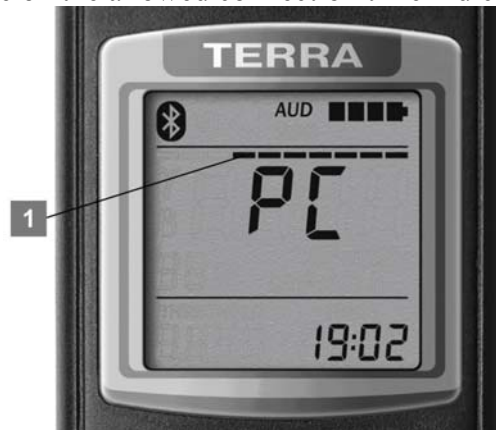
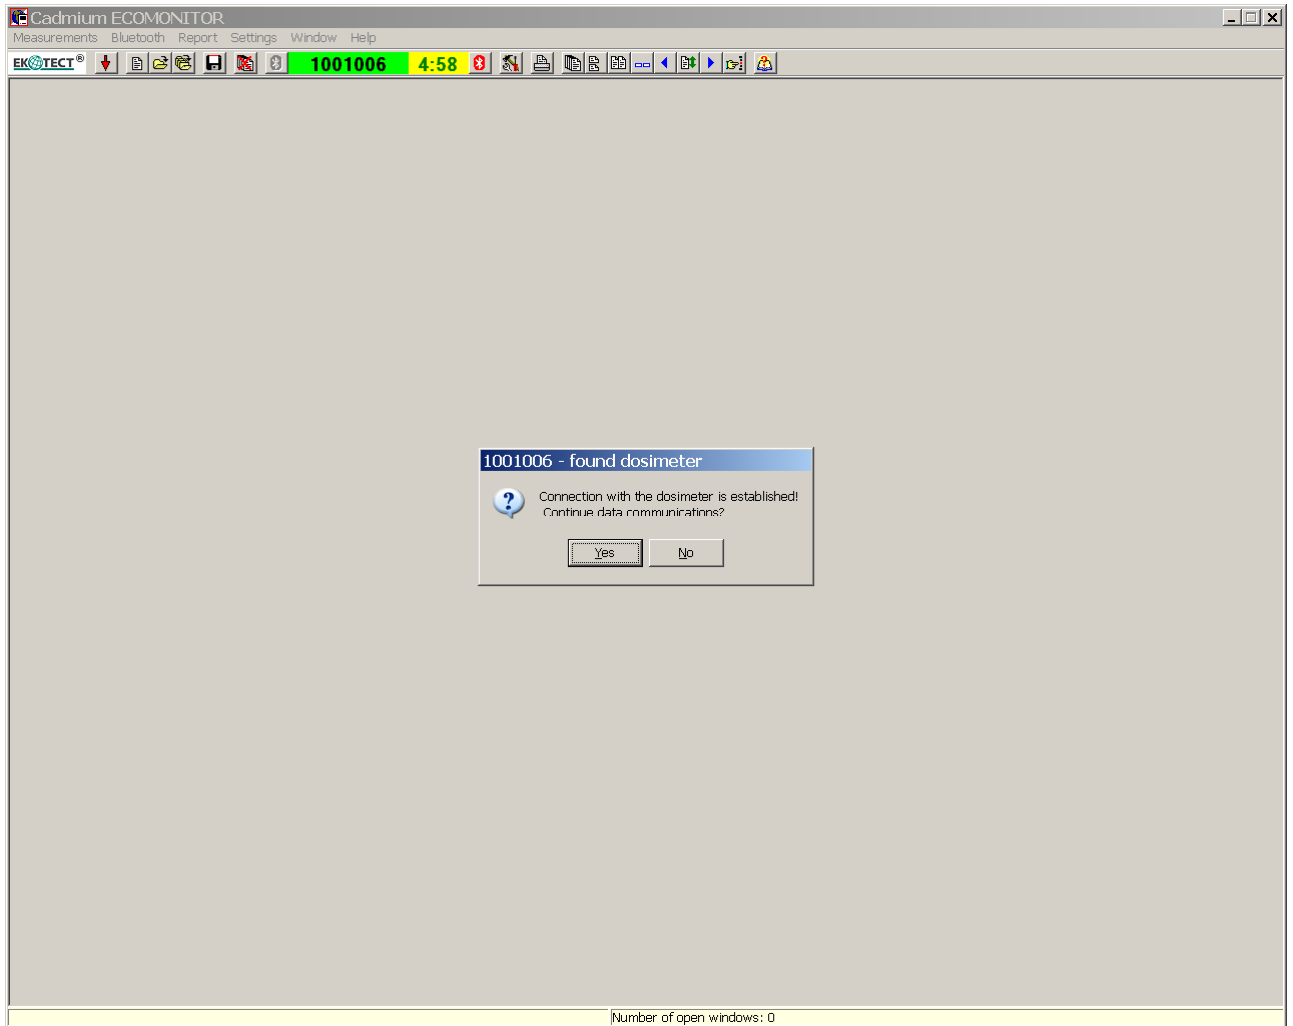
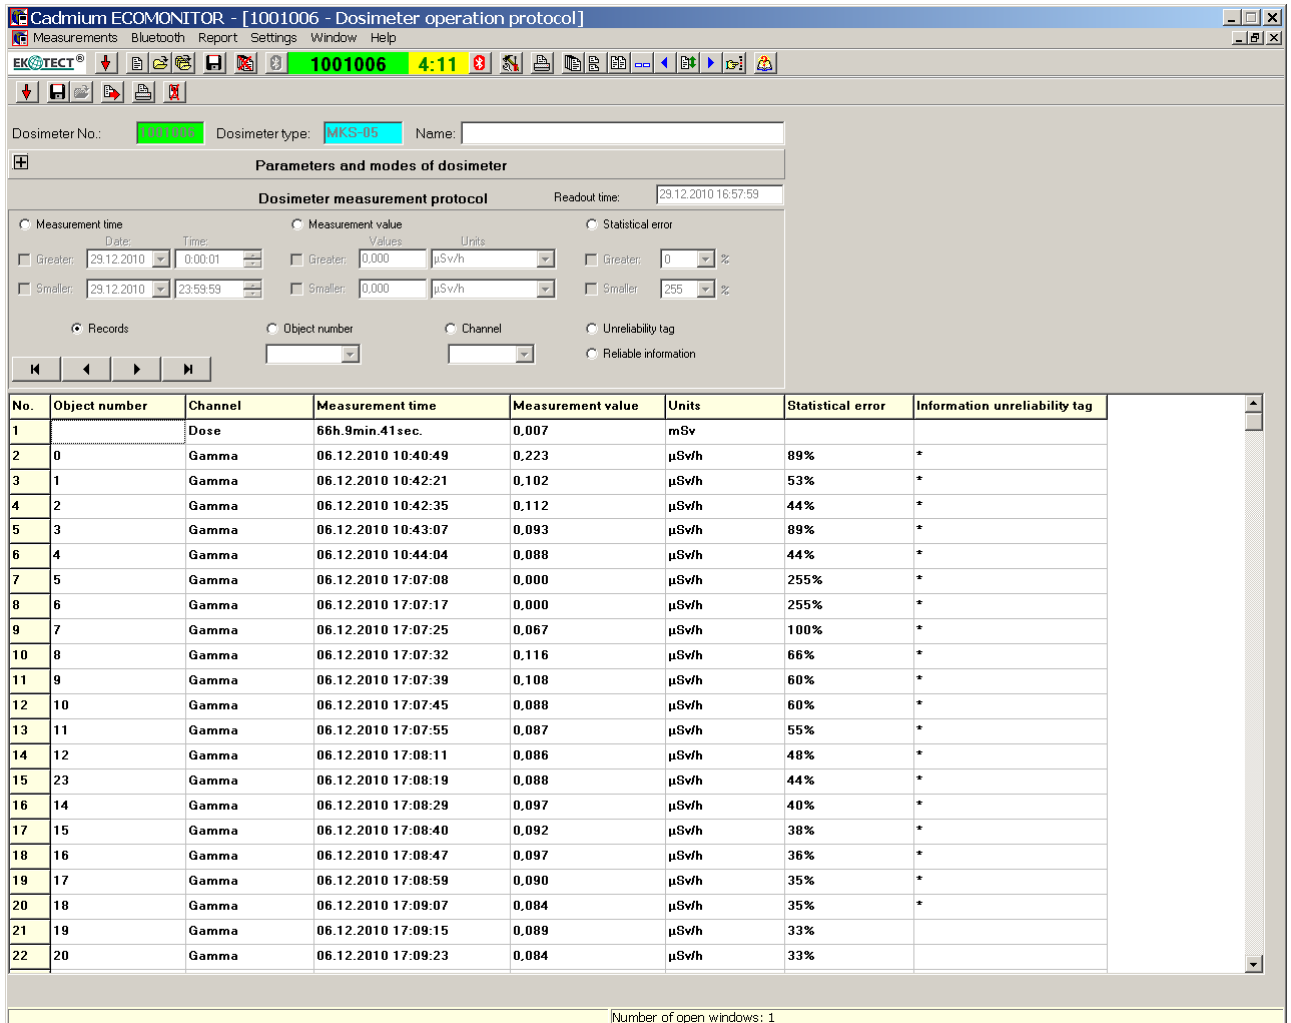

Figure 12– LCD of the dosimeter
Figure 13 – Window of successful connection of the device and the PC via Bluetooth interface
Figure14 – Window with measurement results data read from the device
In case of a successful connection with the PC and data communications start, the LCD of the dosimeter displays a stripe (1) (Figure 12) “moving” across the instantaneous value indicator. The serial number of the device on a green background will appear on the Bluetooth interface status indicator together with the “NNNNNNN - found dosimeter” dialog box and “Connection with dosimeter established! Continue data communications?” query (Figure 13). Click “Yes”. Information read from the device will open in a new data window with the “NNNNNNN – Dosimeter operation protocol” heading (Figure 14) and the countdown starting from 5 min will take place on the allowed connection time indicator;